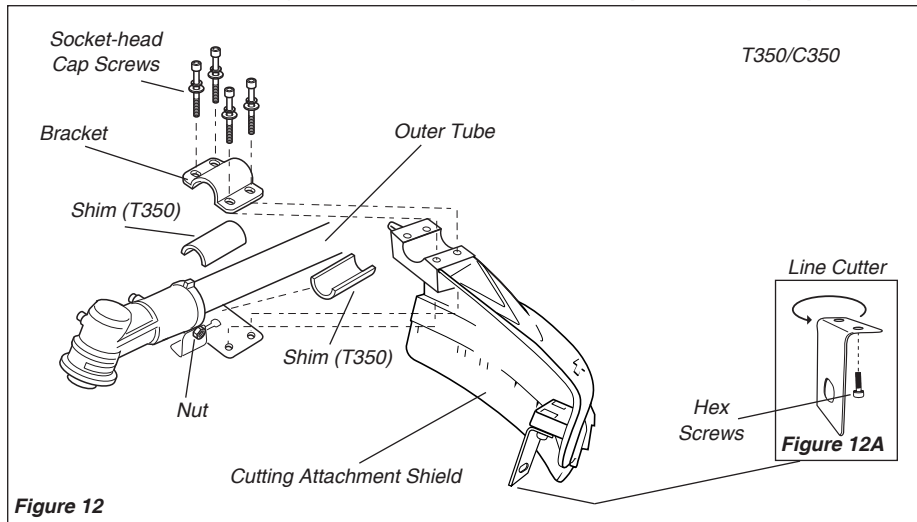

Figure 12
1. Insert the cutting attachment shield between the outer tube and the cutting attachment mounting plate. See Figure 12.
2. Fit the two shims (T350 only) and the bracket over the outer tube and loosely install the four socket-head screws. See Figure 12.